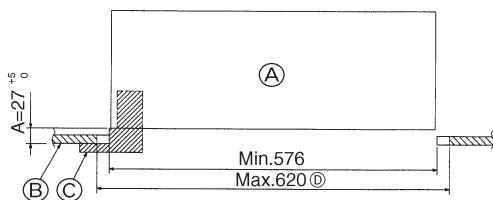

Fig. 8-2
8.2. Preparing to attach the grille (Fig. 8-2)
- (A) Main unit